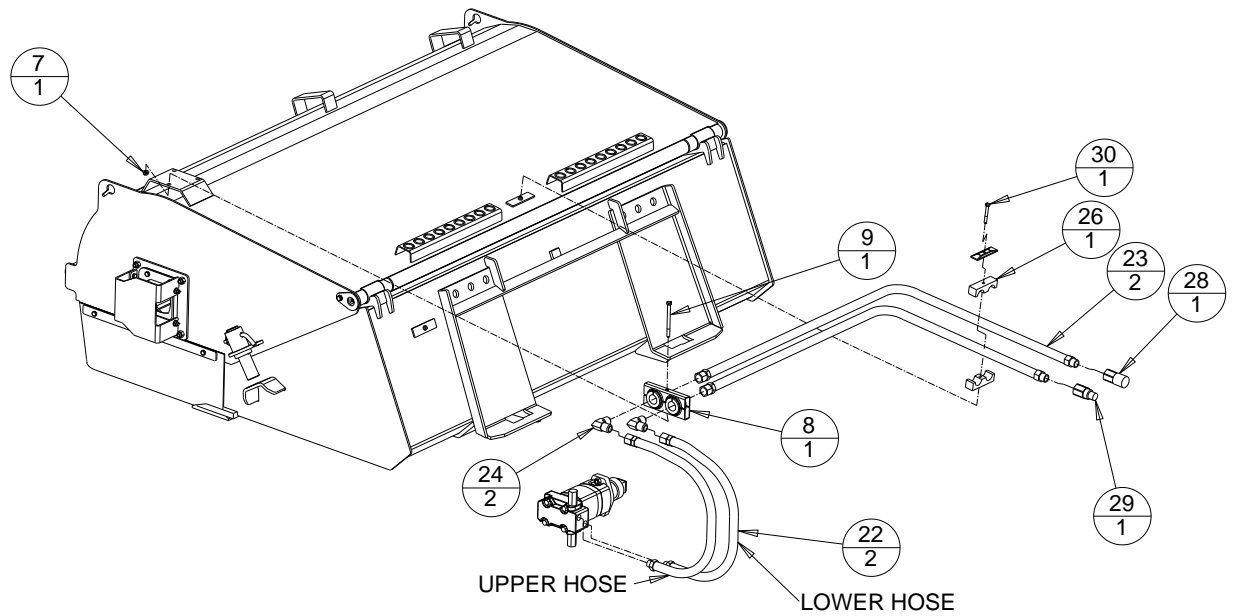

FIGURE 4.
- Remove 3/8" nut (Item #7) holding the hose clamp (Item #8) on left hand side (as seated in machine) of broom and remove hose clamp (see Figure 4). These items will not be used for the Gutter Brush installation.
- Remove 90° elbows (Item #24, See Figure 4) connecting the lead hoses (Item #23) to the motor hoses (Item #22). Take note of which lead hose and coupler connects with which motor hose. These elbows will no longer be used. To minimize loss of hydraulic oil, lay coupler ends of hoses on the ground and hold elbows over drain pan when disconnecting.
- Connect the lower motor hose (see Figure 4) to port “M1” on the valve block and the upper motor hose to port “M2”.